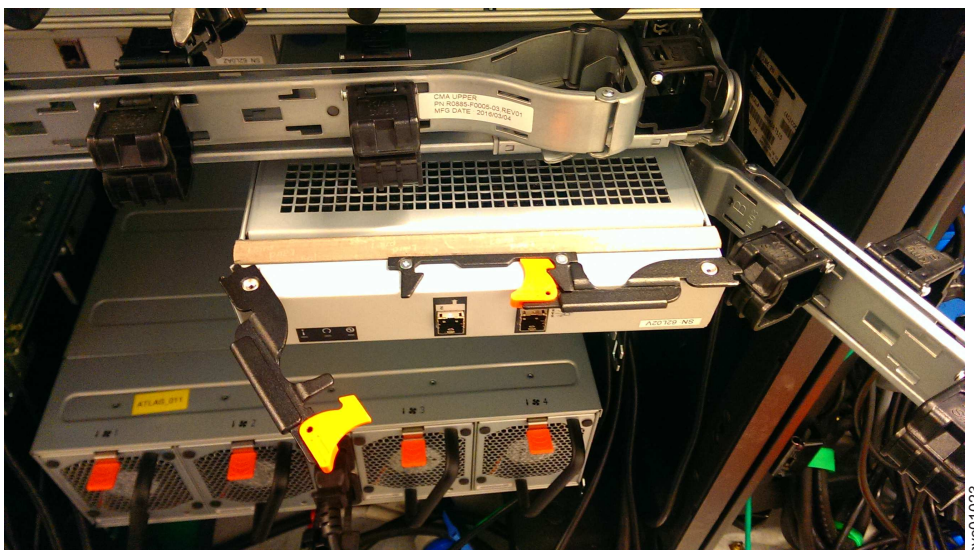

Figure 43. Install the expansion canister
1. Disconnect the elbow of the lower cable management arm to swing it out of the way, as shown in Figure 43 on page 53.
4. When the expansion canister is fully inserted, rotate each handle inward to lock it into position, as shown in Figure 43 on page 53.